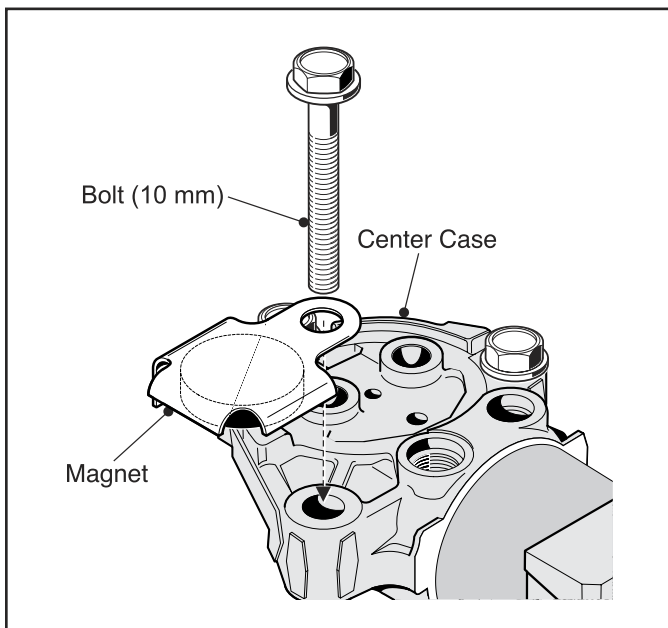

Fig. 21, Magnet Removal
1. Loosen (3) Bolts (10 mm) — removing one, on the Center Case; remove the Magnet. Clean the Magnet thoroughly before reassembling. (Fig. 21)